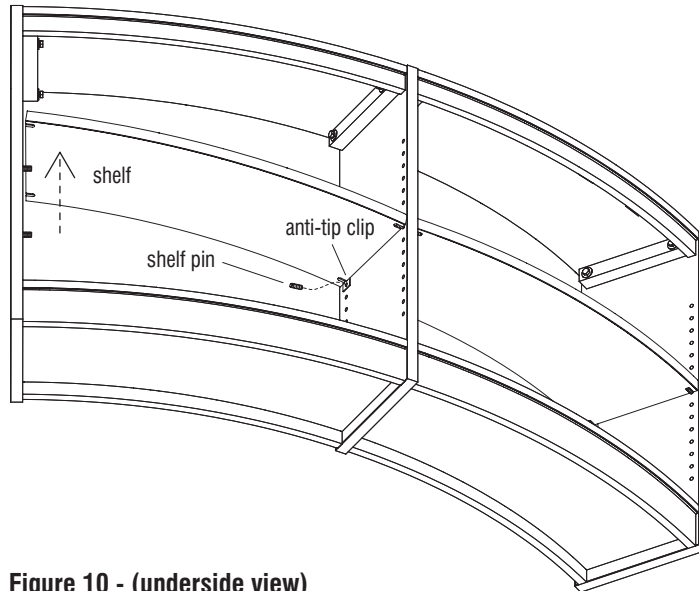

Figure 10 - (underside view)
Note: The shelf pin slot prevents the final shelf pin from simply being inserted into the anti-tip clip and panel mounting hole. In order to gain clearance to insert the shelf pin, the opposite side of the shelf must be lifted up to angle the shelf pin slot, allowing the pin to be inserted without interference (Figure 10 & Detail M).
15. With the assistance of a second person, have one person lift the end of the shelf up without the anti-tip clip, while the second person inserts the shelf pin into the anti-tip clip and panel mounting hole. Once the pin is installed, the second person can lower the shelf to rest on top of the shelf pins (Figure 10 & Detail M).